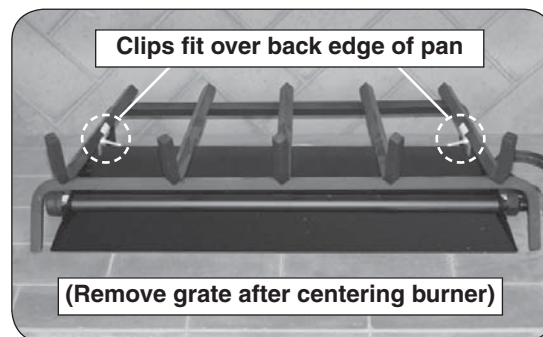

Fig. 10-2 Position grate
2. Position the grate over the burner pan (in fireplace) so the stabilizer clips fit over the back edge of the pan to lock it in position. Ensure the assembly is centered from left to right. See Fig. 10-2 and Fig. 10-3.